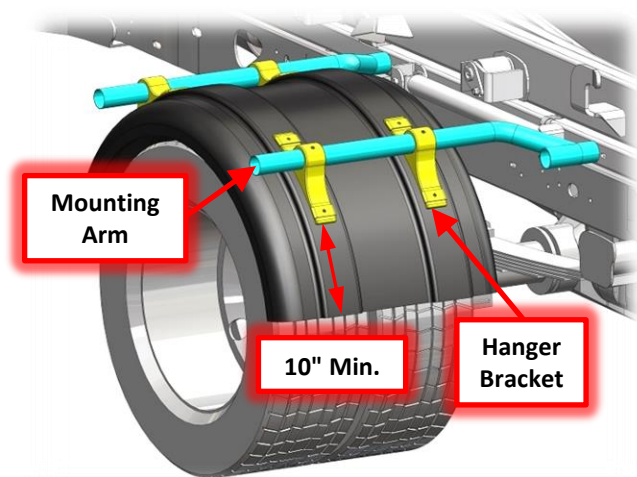

Figure 2-A
- ✓ Hanger brackets sit flush on the protrusions of the fender, see Fig. 2-A.